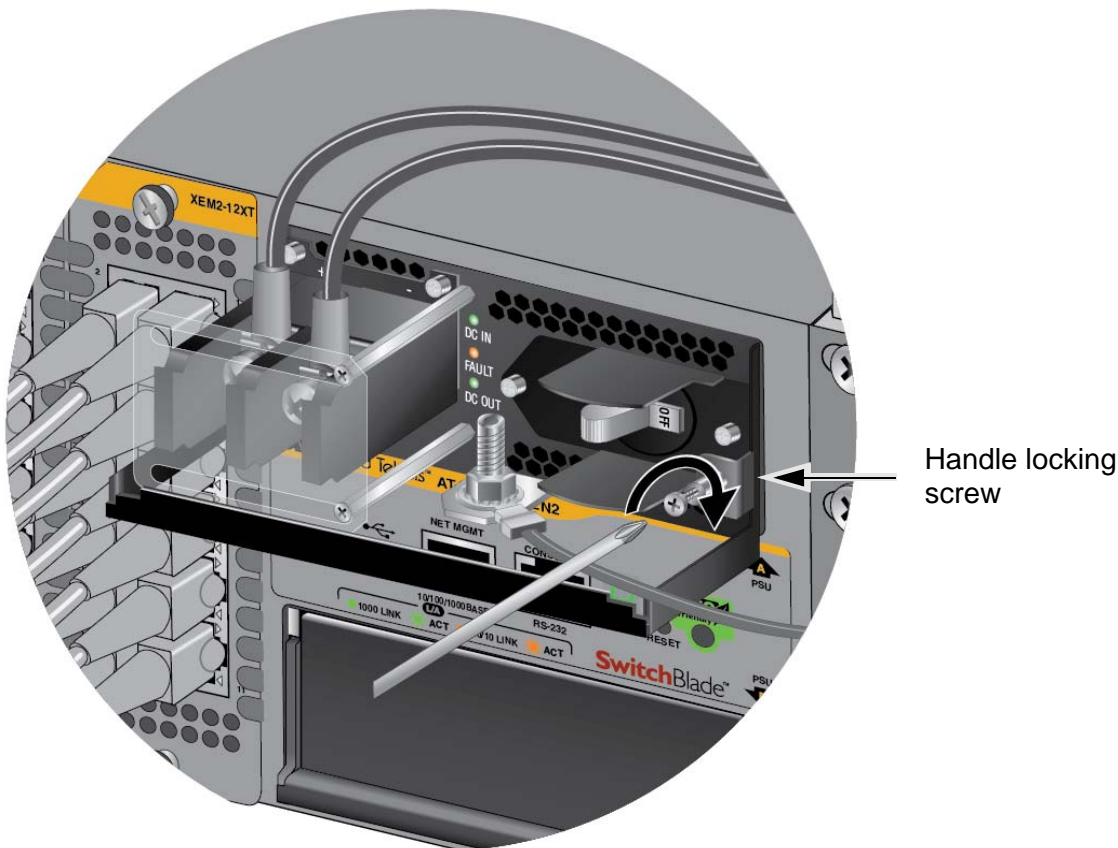

Figure 75. Tightening the Handle Locking Screw
9. With a #2 Phillips-head screwdriver, tighten the handle locking screw to secure the power supply to the chassis. See Figure 75 on page 110.